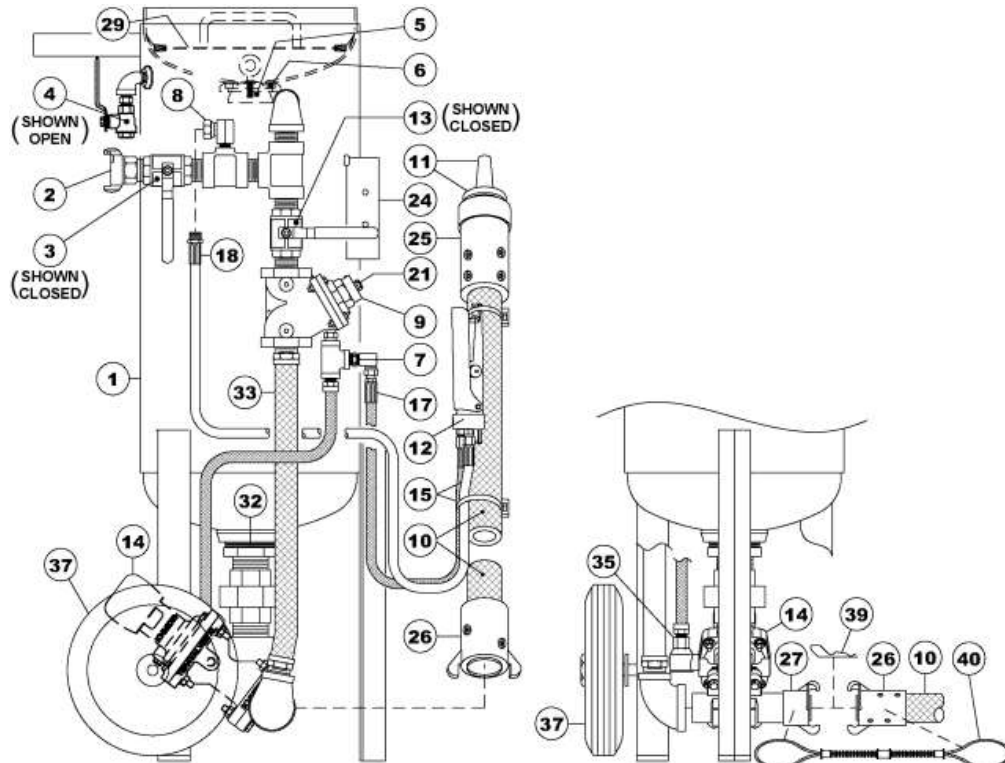

Figure 7.3 – Mini Abrasive Blaster with pneumatic blast controls
7.3 Ending the Blast Operation (See Figure 7.3)
- 7.3.1. Close the air inlet ball valve (#3). The ball valve is closed when the handle is fully turned to the position shown in Figure 7.3 (handle perpendicular to body). The handle tab will bottom against the ball valve body in the closed position.
- g) If the popup must be replaced it can be removed from the blast vessel through the abrasive outlet at the bottom of the vessel. Remove the Tera Valve™ (#14) and the outlet bushing (#39). See Figure 7.3.